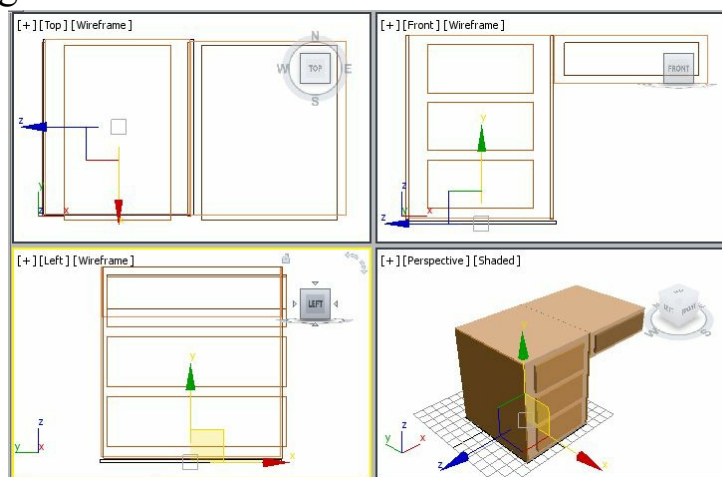

Figure 2-57 Alignment of lower face with the bottom of left box
10. Align *lower face* with the bottom of *left box*, as shown in Figure 2-57.